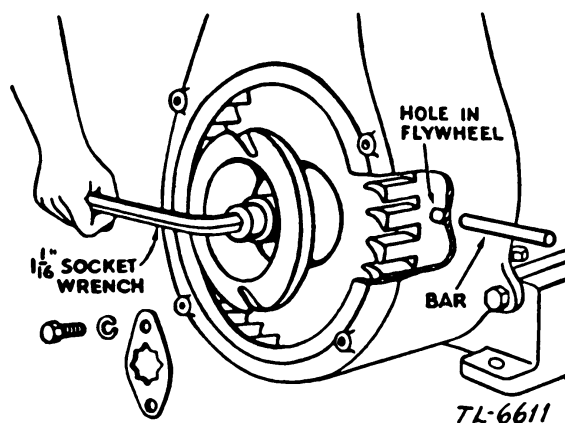

FIGURE 14. Removing flywheel.
**a. Removing flywheel** (fig. 14). The flywheel is securely mounted to the crankshaft by means of a taper fit, a soft key, a right-hand threaded nut, and a nut lock. Place a rod or punch through the  $\frac{3}{8}$ -inch hole in the